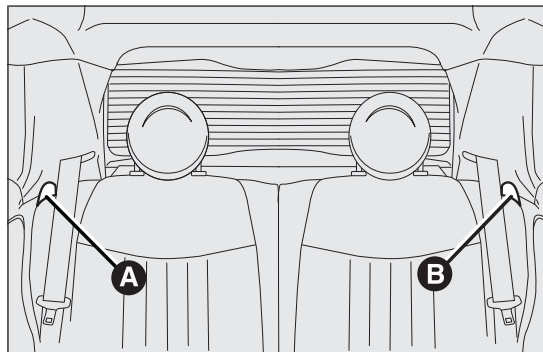

fig. 57
- ☐ operate lever A fig. 57 or B to release the left hand or right hand part of the backrest respectively and fold it down onto the cushion.
- ☐ operate the levers A fig. 57 and B to release the backrests and guide them down onto the cushion.